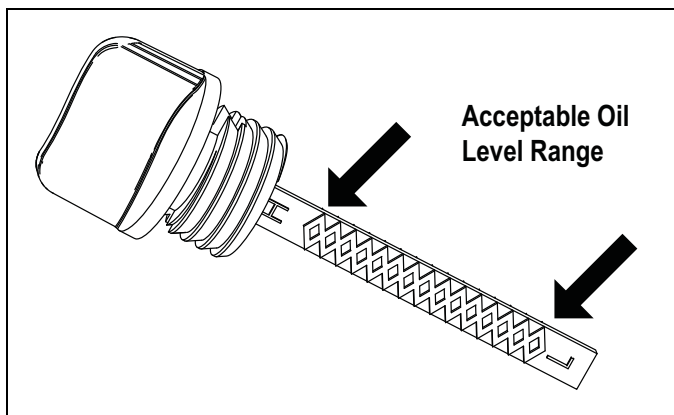

Figure 4-4. Dipstick
4. Check periodically until the oil level is between “L” and “H” on the dipstick (Figure 4-4). Do not overfill.